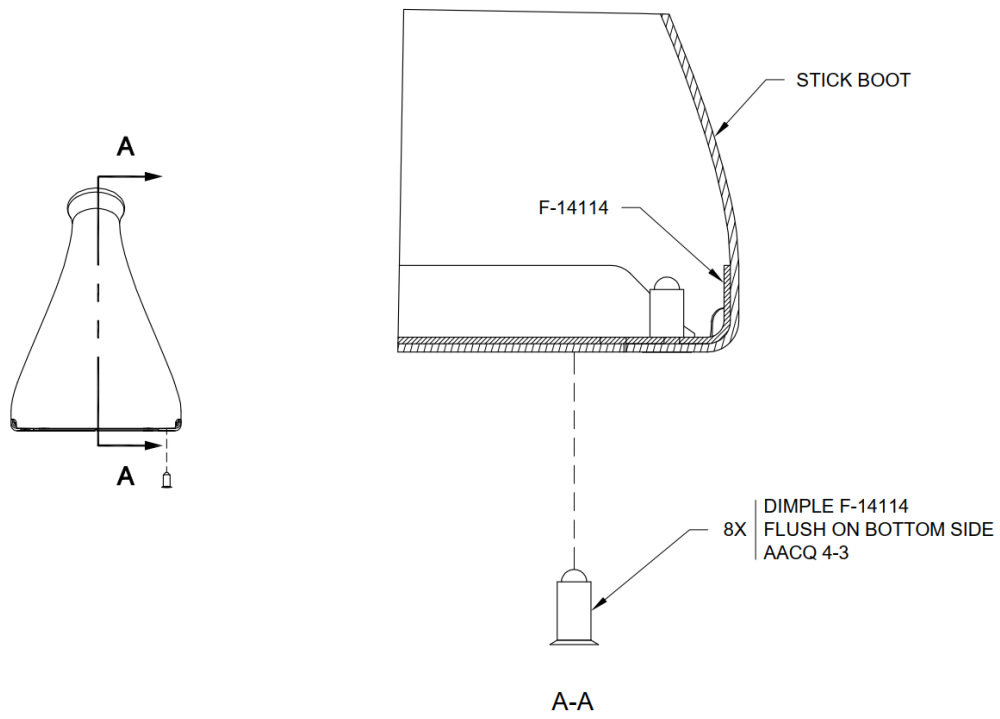

FIGURE 1: STICK BOOT AND STICK BOOT DOUBLER ASSEMBLY
All RV's use control sticks which pass through an opening in a floorboard or bulkhead. Wherever possible, these openings need to be covered by a stick boot that will prevent foreign objects from entering the area where the control components are housed. Figures 1 and 2 are from the RV-14 Kit Assembly Instructions. This solution may easily
Step 1: Construct a doubler ring similar to F-14114, which is shown in Figure 1 and Figure 2.